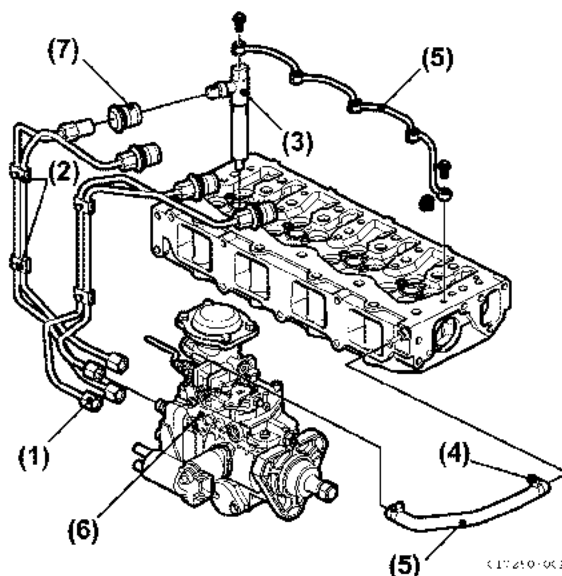

Figure 6-20
4. Disconnect fuel supply line (Figure 6-20, (6)).
5. Disconnect fuel return line (Figure 6-20, (4)).
6. Remove fuel injection line (Figure 6-20, (1)).